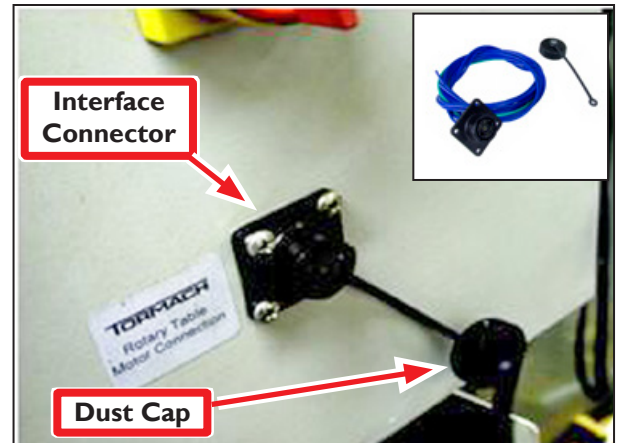

Figure 4
2. Thread the Interface Connector wires through the side of the electrical cabinet (see **Figure 4** and **inset**); secure using four screws set aside in Step 1.
NOTE: Interface Connector's Dust Cap is attached on bottom right screw (see **Figure 4** and **inset**).